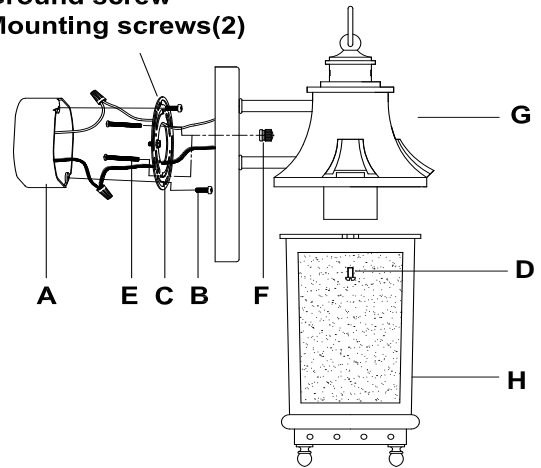

Fig. 2
## CONNECTING THE WIRES (Fig. 2)
5. Connect the electrical wires as shown in Fig.2. Making sure that all wire connectors are secured. If your outlet box has a ground wire (green or bare copper), connect the fixture's ground wire to it. Otherwise, connect the fixture's ground wire directly to the circular strap using the green screw provided.